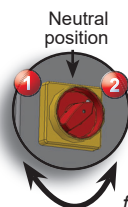
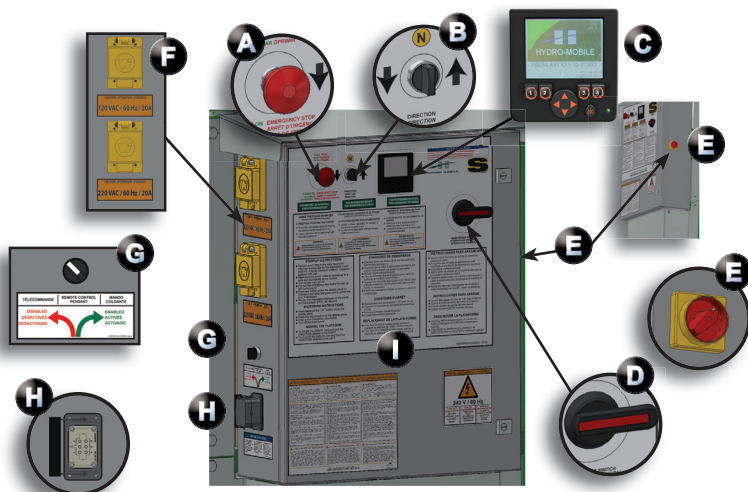

fig. 4.5
fig. 5.1
- 2- Turn on the main disconnect switch (fig. 5.1, p. 64).
- 3- Pull out the emergency stop button (fig. 5.1, p. 64) to power on the display screen. If the display screen does not turn on after a short period of time, make sure that the power cable is properly connected to both the power source and to the motorized unit. If the cable is connected, verify the phase selector and make sure the appropriate phase has been selected. The phase selector must be at the left (1) or right (2) position. The middle (0) position is neutral and will prevent the unit and control panel from powering on. If the display screen still does not turn on, push in the emergency stop button, turn off the main disconnect switch and contact a certified electrician or a qualified technician. For the definition of a qualified technician, refer to p. 7 of the *Performance and Safety* section.
- 2- If the display screen does not turn on after a short period of time, make sure that the power cable is properly connected to both the power source and to the motorized unit. If the cable is connected, verify the phase selector and make sure the appropriate phase has been selected. The phase selector ("E" in fig. 5.1, p. 64) must be at the left (1) or right (2) position (see fig. 4.5, p. 63). The middle (0) position is neutral and will prevent the unit and control panel from powering on. If the display screen still does not turn on, turn off the main disconnect switch and contact a certified electrician or a qualified technician. For the definition of a qualified technician, refer to p. 7 of the *Performance and Safety* section.